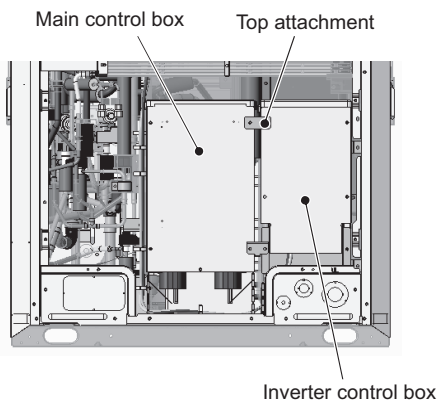

Figure 5
- (5) Remove the top attachment that connects the main control box to the inverter control box by unscrewing the 2 screws. (See Figure 5.)
- (6) Remove the cover from the inverter control box by unscrewing the 3 screws. (See Figure 5.)